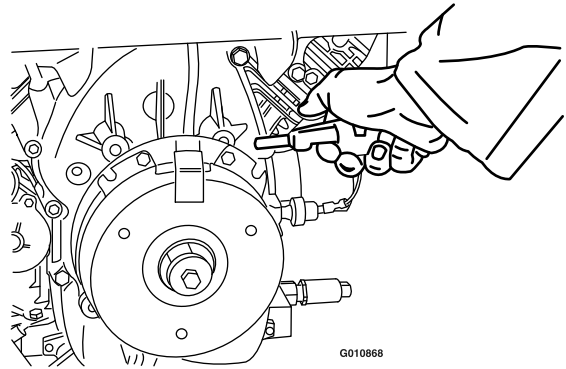

Figure 65
3. Using an air compressor, blow out any debris from under the brake pole and around the brake spacers (Figure 65).